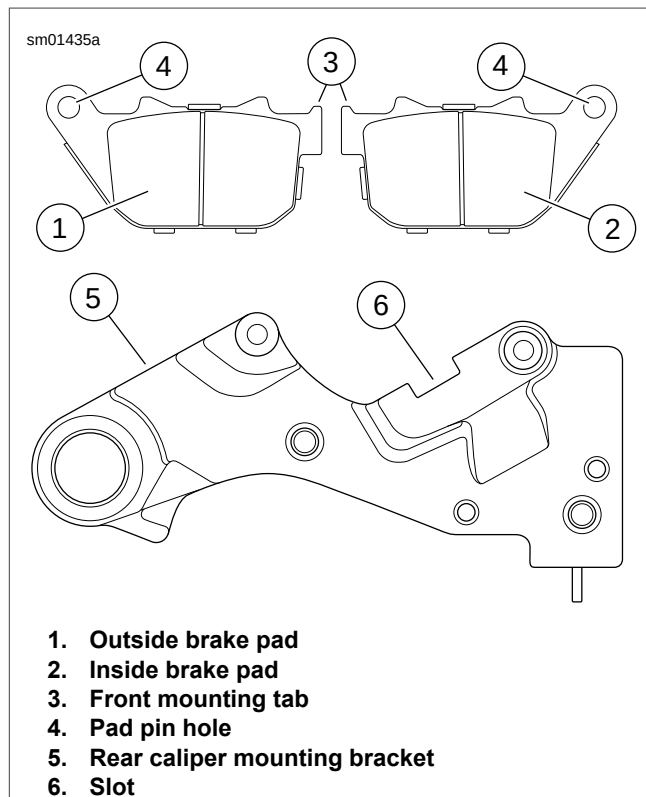

Figure 1-61. Rear Brake Pads: XR 1200X
1. See Figure 1-61. Install **new** outside brake pad using the same orientation as pad previously removed. Make sure front mounting tab (3) is seated in slot (6) in caliper mounting bracket and pad friction material faces brake disc.
- See Figure 1-61. Pad front mounting tabs (3) must be fully seated in mounting bracket slot (6).